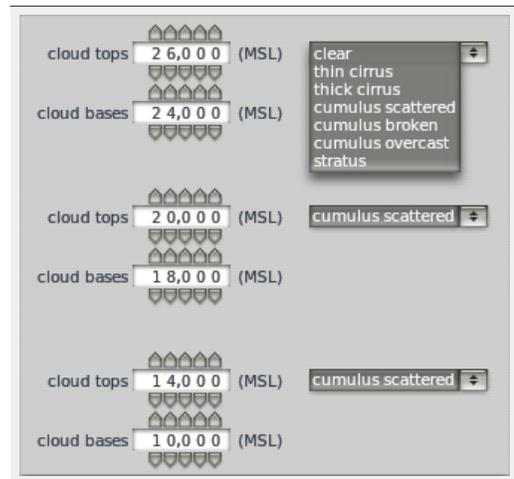

Figure 4.5: Setting the cloud coverage for the whole world [Full size →]
3. Using the three cloud drop-down menus (found in the upper left of the screen, and pictured in Figure 4.5), set the cloud types to “clear” or “cumulus overcast” for max frame rate. For a good frame rate, set them to “thin cirrus” or “stratus.” “Cumulus scattered” or “cumulus broken” take a lot of computing power to display.